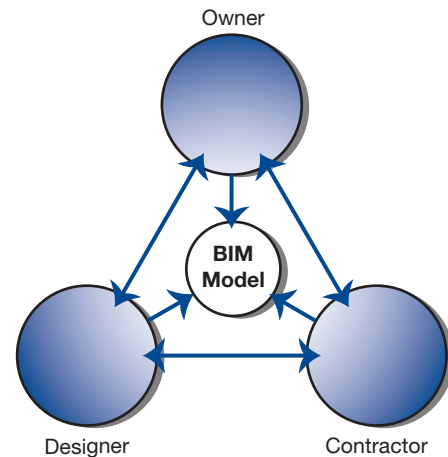

Figure 3.11 A question of identity: Where is the architect?
**JH:** It’s an experience thing. When I was a contractor, there were three architects that I regularly worked with that I knew would take care of me. If they screwed up on their design, I knew we could hammer it out. And they knew I wouldn’t mess with them so they would refer business to me. It was a situation of mutual admiration and mutual trust. We both win. On huge projects, where the general contractor brings in not only subs but other contractors as well, it gets very complicated. I don’t know this guy—why should I trust him? That’s human nature as well as the architect knowing that her butt’s on the line—and so the due diligence up front. What recourse does she have when, three months into it, she realizes that she signed up with a bunch of idiots? What’s her out? (See Figure 3.11.)